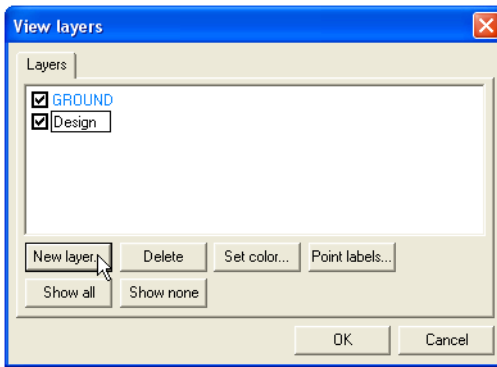

Figure 3-12. Add New Layer to Points
2. Type a name for the layer (Figure 3-12) and press **Enter**.